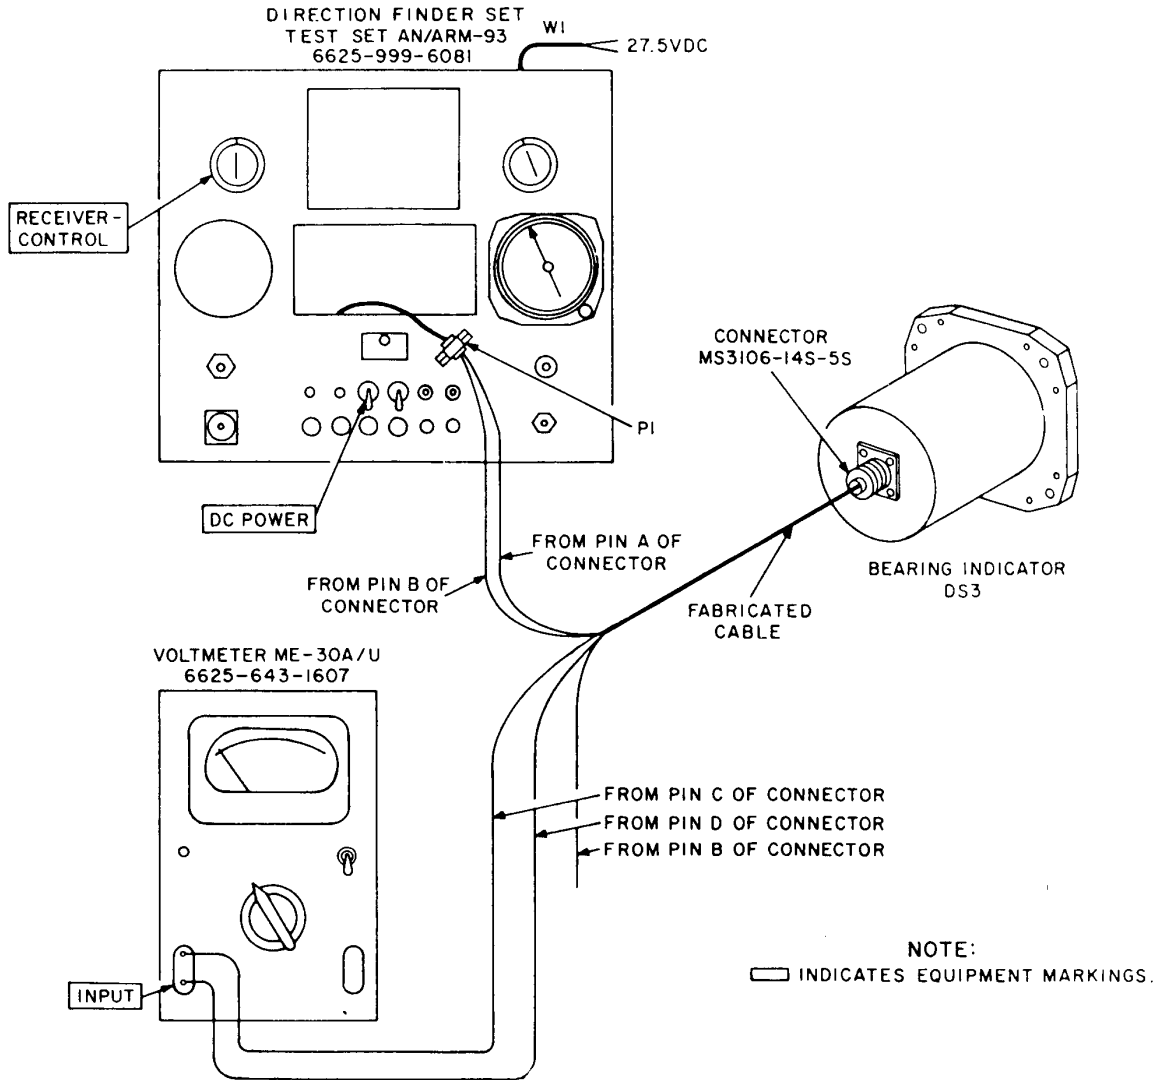

Figure 9. Test equipment connections for BEARING INDICATOR Zero Calibration.
(5) Connect the equipment as shown in figure 9. Connect the fabricated cable to the connector on the BEARING INDICATOR.